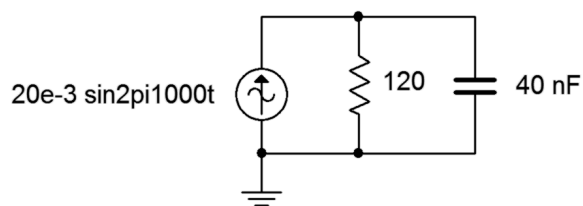

Figure 3.12
17. Determine the component currents for the circuit shown in Figure 3.12. Draw phasor diagram of the source and branch currents.
18. Determine the resistor and capacitor voltages for the circuit shown in Figure 3.12.
53. Impedance magnitude as a function of frequency can be investigated by driving the circuit with a fixed amplitude current source across a range of frequencies. The resulting voltage will be proportional to the effective impedance. Investigate this effect by performing an AC analysis on the circuits shown in Figures 3.12 and 3.13. Use a frequency range of 10 Hz to 1 MHz. Before running the simulations, sketch your expected results.